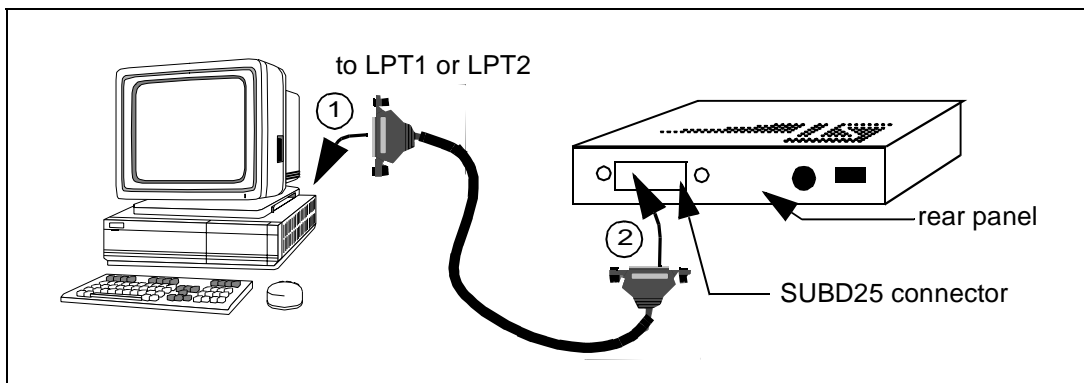

Figure 4: Connecting the emulator to the PC
- 2 Connect one end of the parallel cable to the emulator's rear panel 25-pin SUB-D connector and the other end to one of the PC's parallel ports (LPT1 to LPT2)—refer to Figure 4.